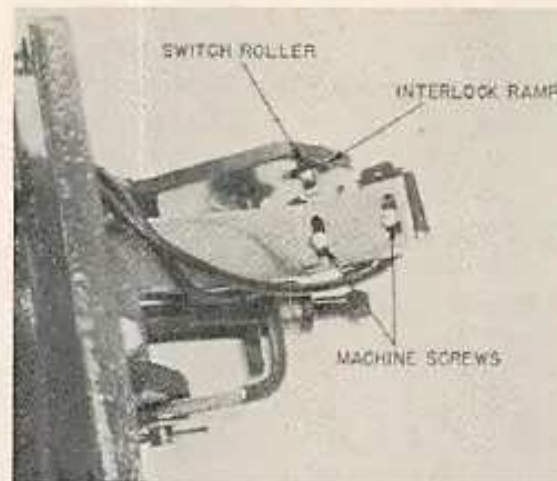

Fig. O119 — View showing adjustment of safety starting switch. Refer to text for procedure.
Disassembly is evident after inspection of the unit and reference to Fig. O118. Before installing on transmission, check the safety switch (28) and if necessary, readjust position of switch so that it opens when roller is about half way up the ramp on interlock (18 or 19). Refer also to Fig. O119.
Fig. O118 — Exploded view of transmission shift and interlock cover. Interlock (18) is used on Row Crop and Wheatland models; interlock (19) is used on Industrial and Utility models and is optional on Row Crop and Wheatland models. Refer to Fig. O119 for safety starting switch adjustment.